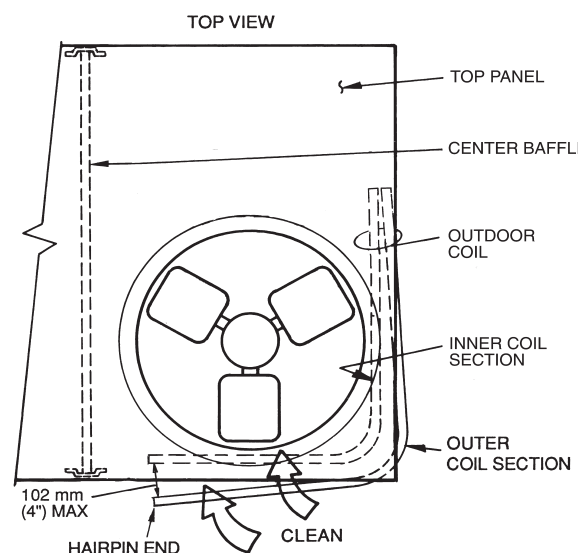

Fig. 16 – Separating Coil Sections
5. Remove fastener holding coil sections together at return end of condenser coil. Carefully separate the outer coil section 3 to 4 in. from the inner coil section. (See Fig. 16.)